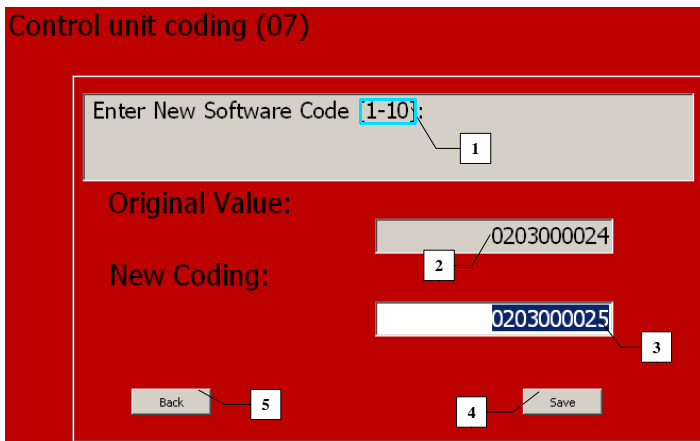
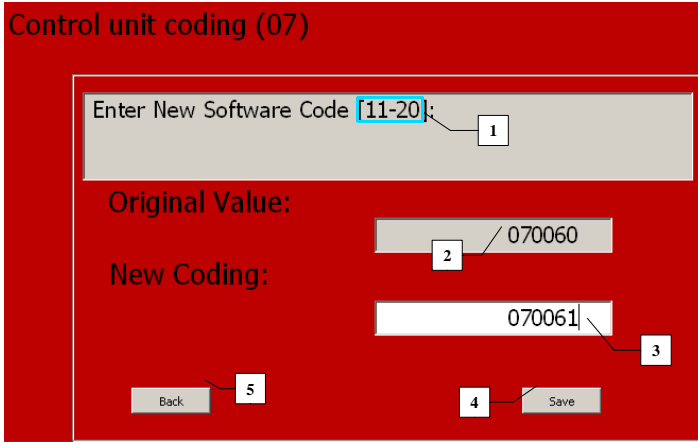

Figure 5.27
Figure 5.28
The string is divided into groups of 10 characters. You can see information about current part of the code in the upper part of the window (2 and 3). On the *Figure 5.27* you can see a window with the first group of characters. If you have set the desired value (3), press the Save button and you will either be able to set the next 10 characters (*Figure 5.28*), in our case it is only 4 characters, or if there are no characters left you will be asked for final confirmation of the coding change (5.25) and if you do so a window with result appears (5.26). If you press the Back button during the changes, the function is aborted with no changes.